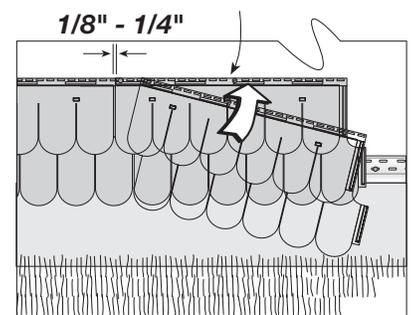

FIGURE 4
4) Install the next panel by using a dual motion of hooking into the starter strip and sliding over the previous panel. This will ensure a proper lap (figure 4).